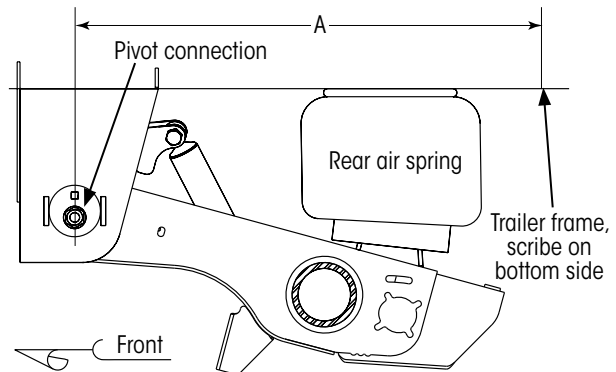

Figure 43: Sample locating measurement (AANT shown)
1. Refer to applicable installation drawings¹ to **measure A** (Figure 43) and **locate** the support arm assembly on the trailer frame.